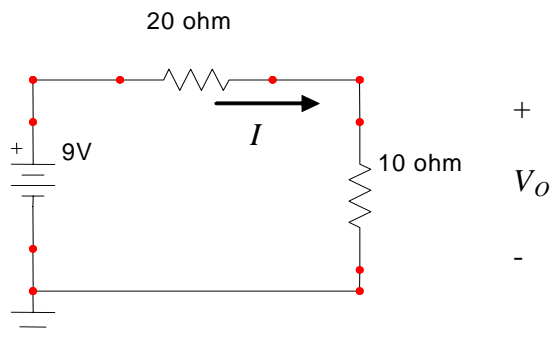

Figure 2
- Consider the resistor-divider circuit shown in fig.2. Find the voltage across the 10 ohm resistor.